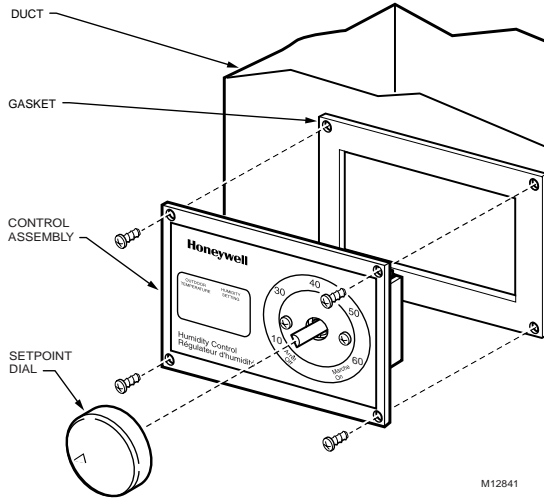

Fig. 4. Secure assembly to duct.
5. Use sheet metal screws to secure the assembly to the duct through the mounting holes. See Fig. 4.